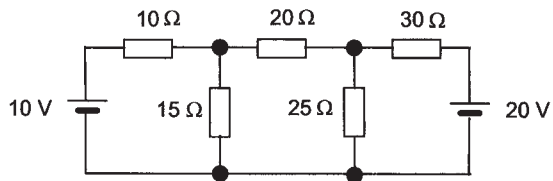

Figure 12.30 Problem 8
- 8 Use mesh analysis to determine the currents through the resistors in the circuit shown in Figure 12.30.